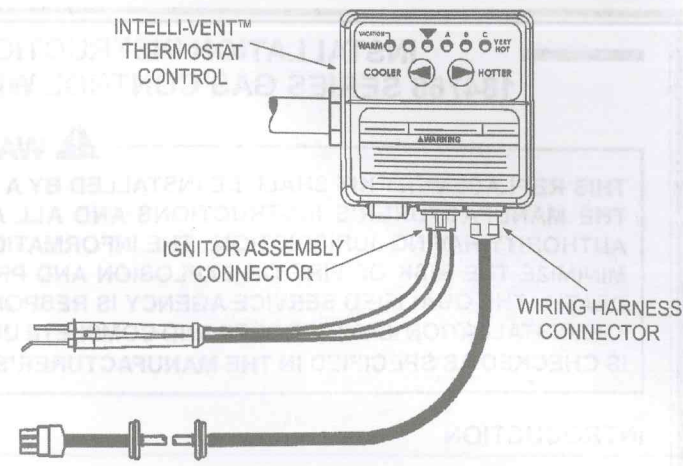

FIGURE 2.
2. Locate the wiring harness and connector that comes out of the water heater's jacket and is plugged into the Intelli-vent™ Thermostat Control, (184768 Series). Squeeze the connector and pull it straight out of the control, see Figure 2.
3. Locate the ignitor assembly and connector that comes out of the combustion chamber of the water heater and is plugged into the Intelli-vent™ Thermostat Control, (184768 Series). Squeeze the connector and pull it straight out of the control, see Figure 2.